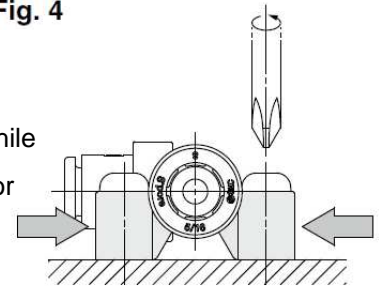

Fig. 5
(3) When mounting the product with the standard bracket, tighten the screw while holding both sides of the bracket. If the fit of the bracket is loose, the ejector may move after tightening the screws. (Fig. 5)